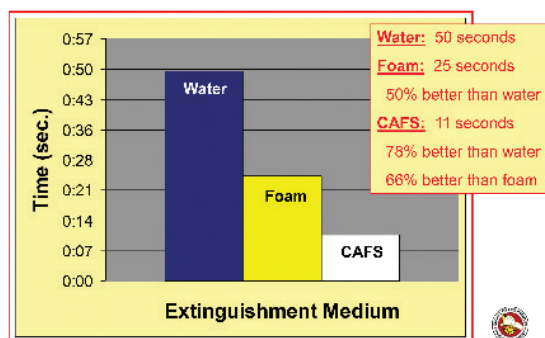

Fig: 1
- Offers knockdown times that are 78 percent better than water and 66 percent better than Class A foam (Fig 1)